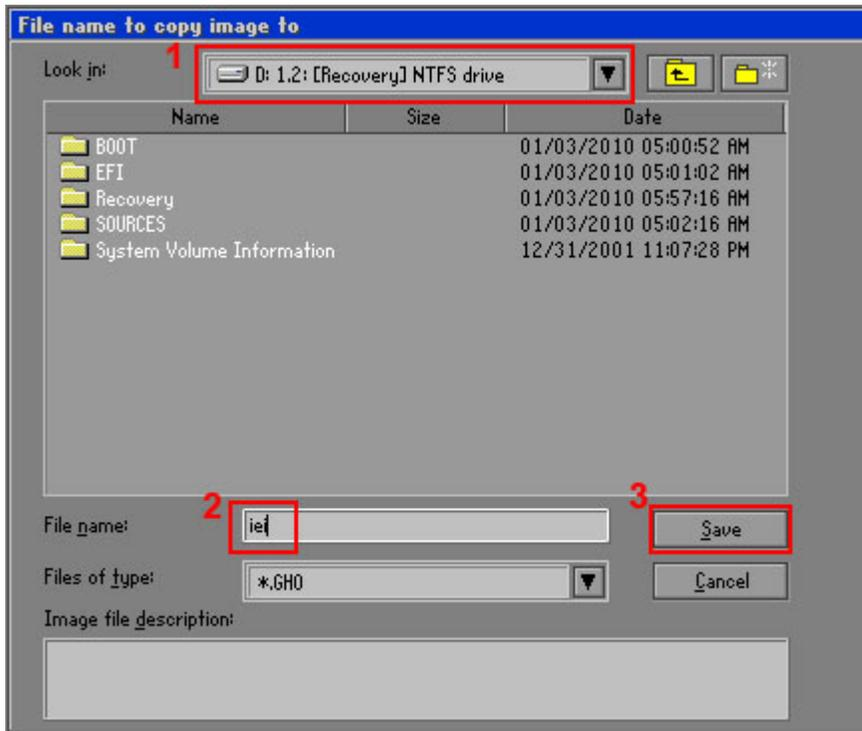

Figure D-16: File Name to Copy Image to
Step 7: Select **1.2: [Recovery] NTFS drive** and enter a file name called **iei** (**Figure D-16**). Click **Save**. The factory default image will then be saved in the selected recovery drive and named **IEI.GHO**.